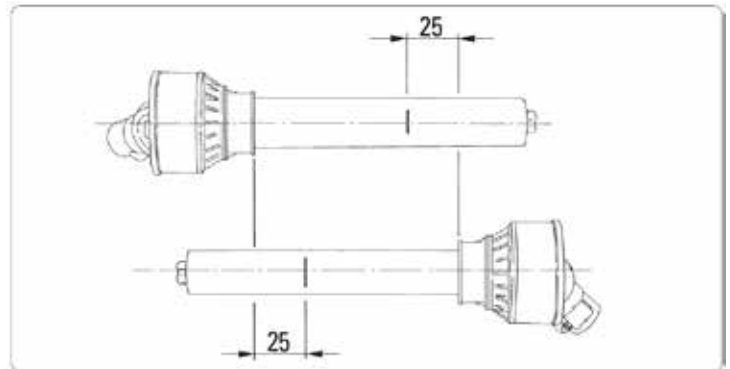

fig. 4.3.1
- Using a felt tip pen, mark the place where the two halves must be shortened, measuring 25 mm from the beginning of each half, as shown in fig. 4.3.1.